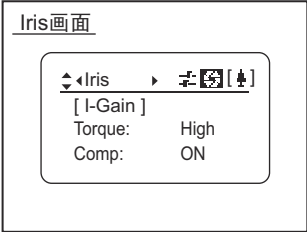

Fig1-6
4. Iris screen  ..... (See Fig. 1-6 below)